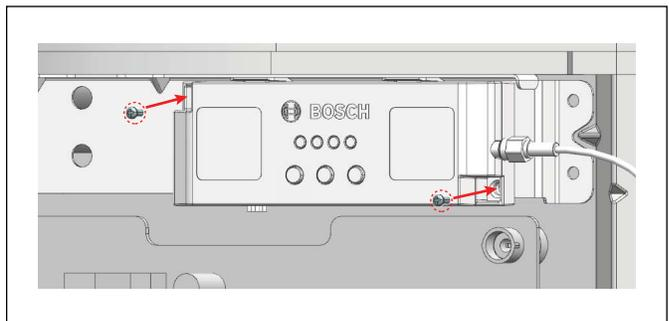

Figure 10
- Install the new Gateway on the unit using 2 screws (Refer to Figure 10).